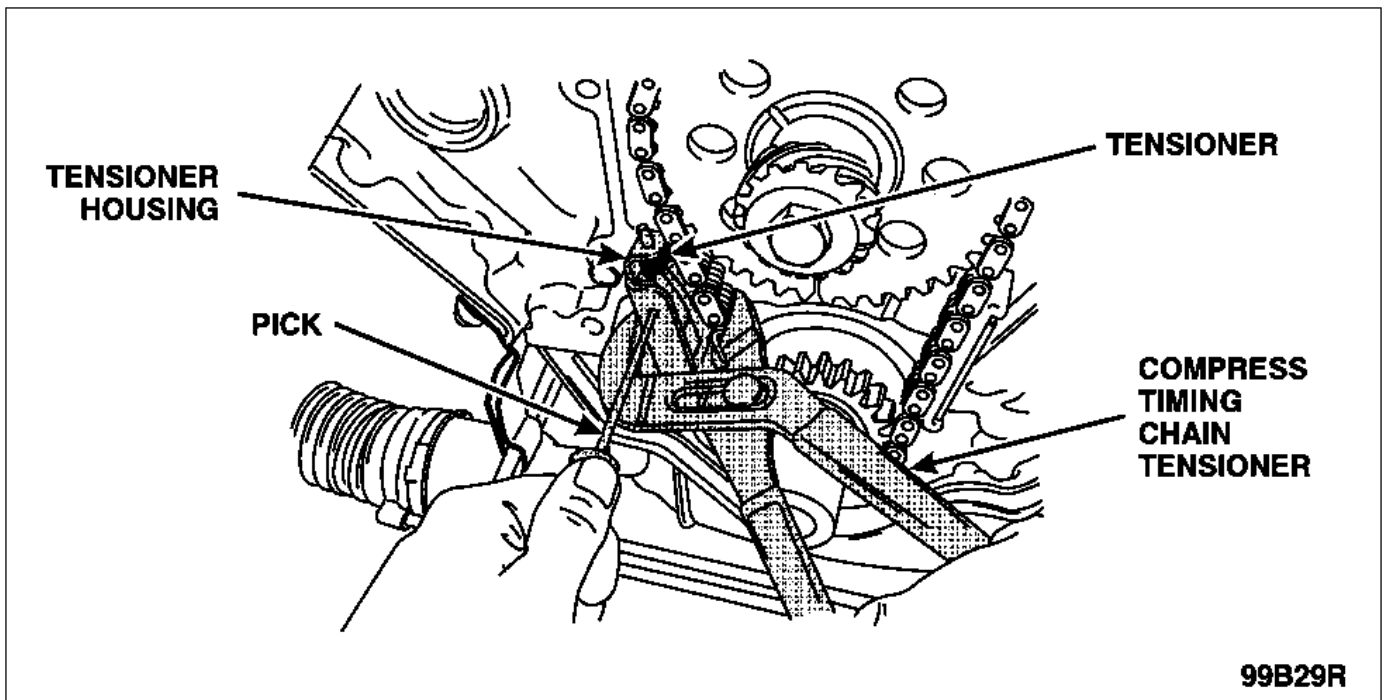

FIGURE 18
- Using pliers, compress the timing chain tensioner. See Figure 18.
- Insert a pick through the tensioner housing and into the tensioner. See Figure 18.